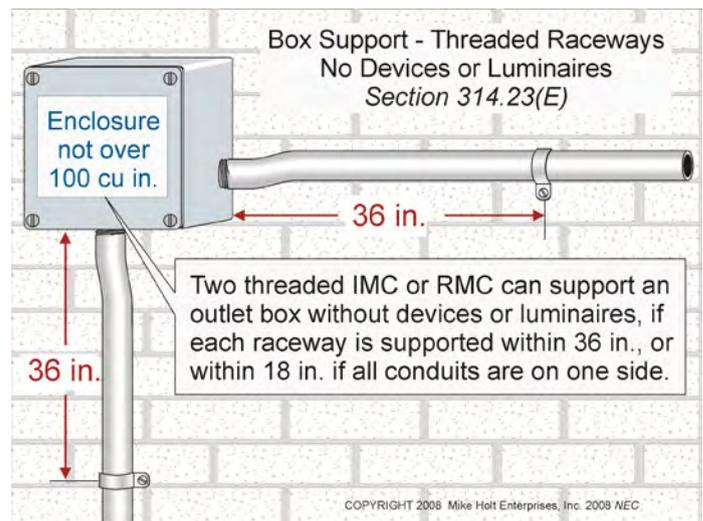

Figure 314-16
(E) Raceway—Boxes and Conduit Bodies Without Devices or Luminaires. Two intermediate metal or rigid metal conduits, threaded wrenchtight into the enclosure, can be used to support an outlet box that doesn't contain a device or luminaire, if each raceway is supported within 36 in. of the box or within 18 in. if all conduit entries are on the same side. **Figure 314-16**